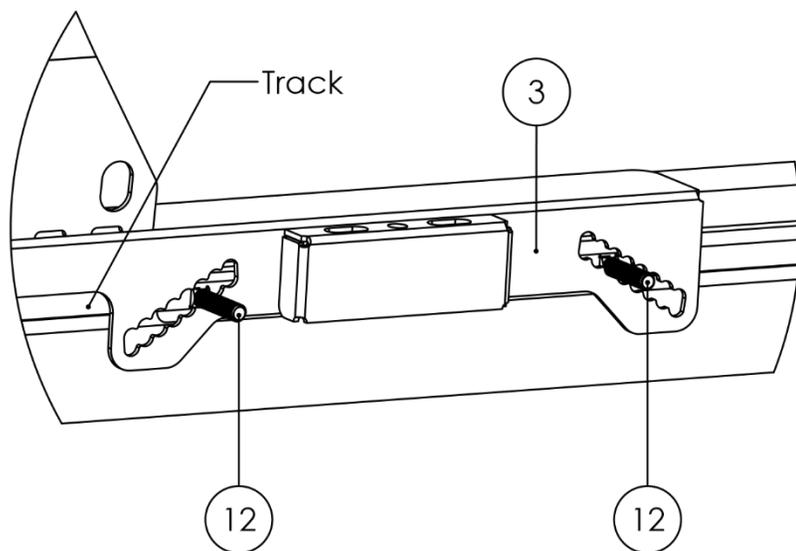
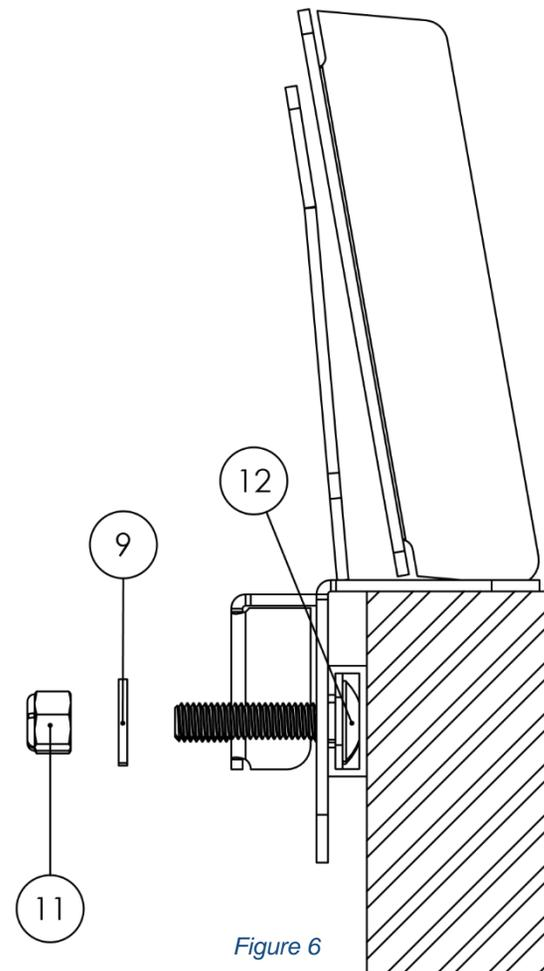

Figure 5
Figure 6
- Install the base of the rack.** Begin the installation of the Base Rail Assembly (Item No 3) by placing (2) 1.75" Carriage Bolts (Item No. 12) within your truck's track system as shown in Figure 5. It is important that these Carriage Bolts project out into the Base and that you find a solution that firmly secures the rack. As shown in Figure 6, finish securing the base by using a Lock Nut (Item No. 11) and Metal Washer (Item No. 9). **DON'T forget to apply a little grease to the screws before tightening or it may be hard to remove the nuts later.**